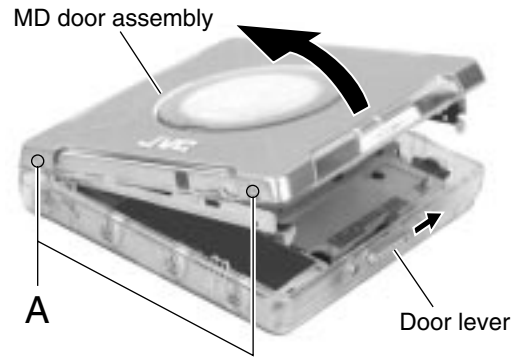

Fig.1
■ Removing the MD door assembly (See Fig.1 and 2)